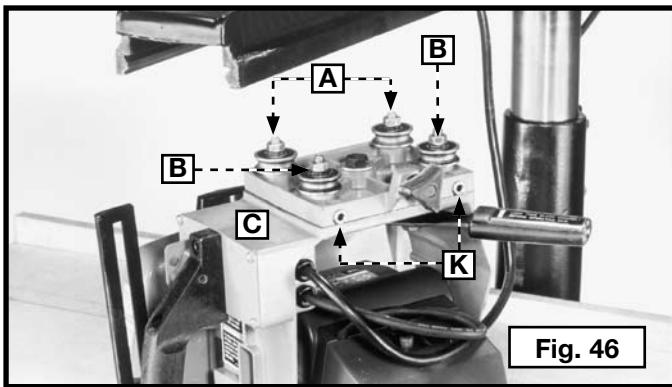

Fig. 46
The cuttinghead (C) Fig. 46 is suspended from four pre-loaded, lubricated, shielded ball bearings, two of which are on fixed shafts at (A), and two on adjustable shafts at (B).
**CAUTION:** The cuttinghead (C) Fig. 46 was removed from the track arm for illustration purposes. DO NOT remove the cuttinghead from the track arm.
2. Slide the cuttinghead (C) Fig. 46 until one of the adjustable bearings (B) Fig. 46 is visible through the hole (G) Fig. 46.